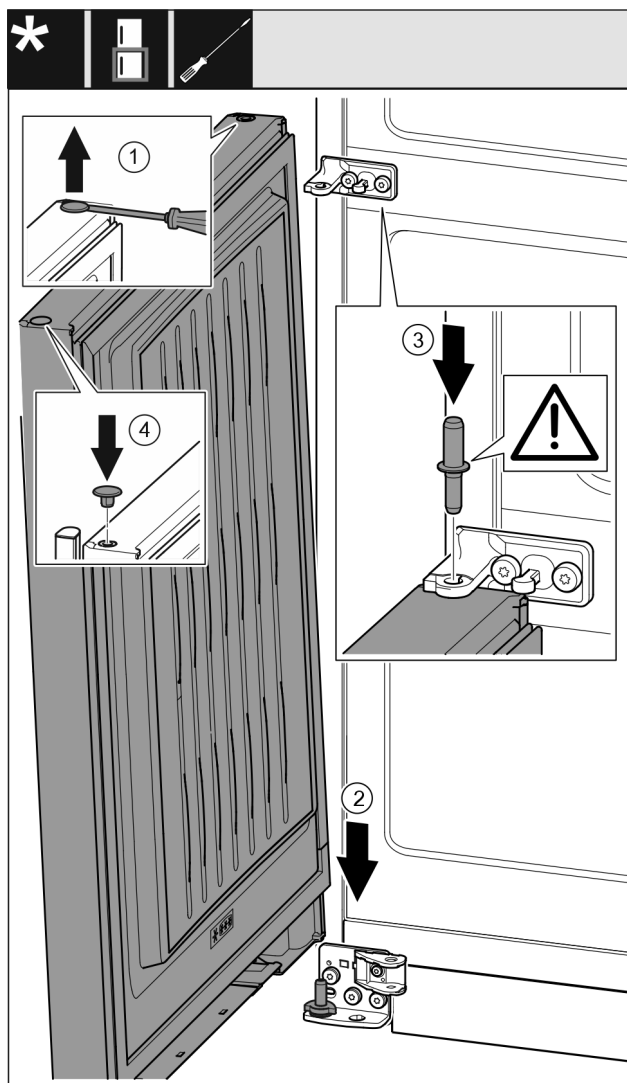

Fig. 37
- Use a slotted screwdriver to lift the plug Fig. 37 (1) carefully and pull it out.
- Lower the door Fig. 37 (2) onto the bottom bearing bolt.
- Insert the centre bearing bolt Fig. 37 (3) through the centre bearing block in the lower door. Ensure that the latching cam is pointing towards the rear.
- Re-insert the plug Fig. 37 (4) on the other door side.